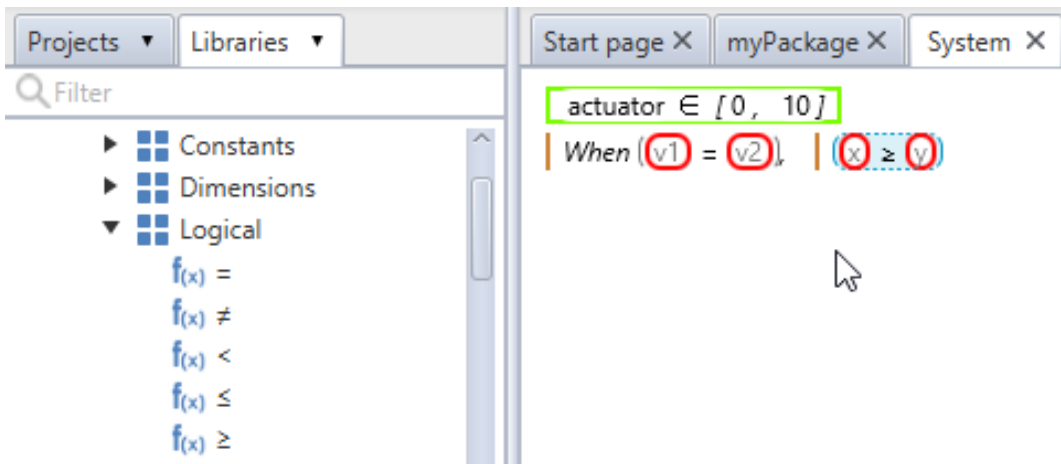

Figure 13. Add a **When** requirement
**Stimulus** allows you to write real-time requirements, that constrain the system behaviour at some specific time instants or time periods. The **Temporal** library package provides templates to write such requirements. Let us write a new requirement using the **Temporal > When** template as shown in Figure 13. It applies the **<BODY>** constraint when the **condition** is true.
To fill the gaps, open the **Logical** library package, drag and drop the **=** into the **condition** and the **>=** into the **<BODY>** as shown in Figure 13. You can notice that combining sentence templates allows you to write complex requirements.